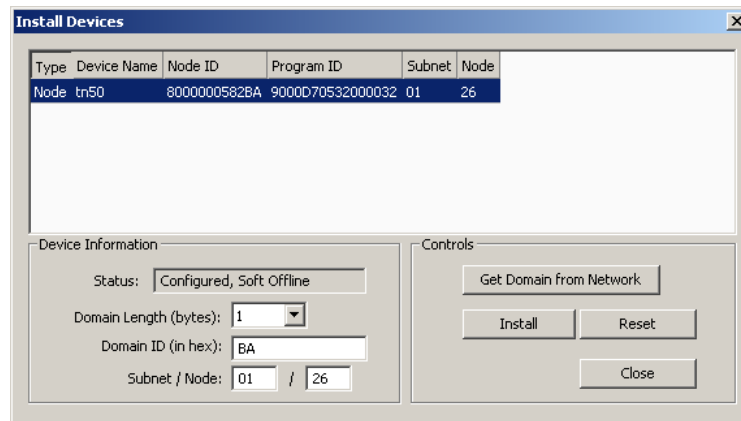

Figure 192: Install devices dialog.
5. Click the **Install** button. This opens the **Install Devices** dialog as shown in Figure 192.